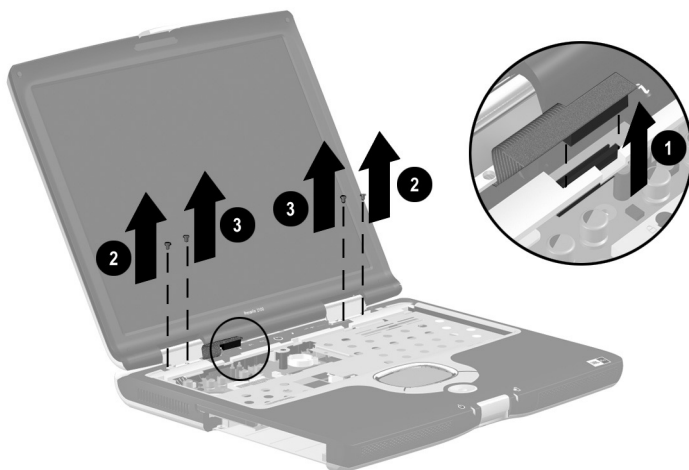

Figure 5-20. Removing the Display (Part 1)
7. Disconnect the display cable ❶ from the system board (Figure 5-20).
8. Remove the two PM2.0 × 8.0 screws ❷ that secure the display hinges to the base enclosure.
9. Remove the two black PM1.5 × 5.0 screws ❸ that secure the hinge covers to the base enclosure.